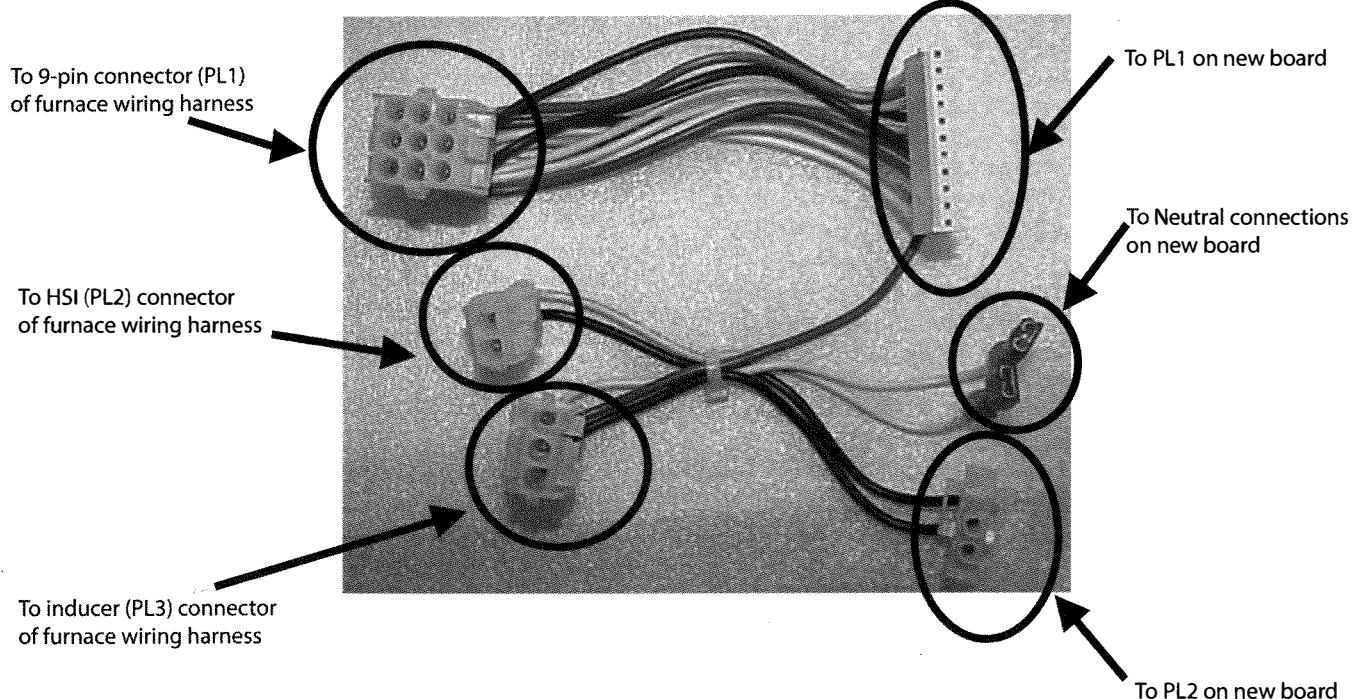

Fig. 3 - Wiring Harness Adapter
- Install furnace control board retaining screw(s). Install wiring harness adapter (part# 328151-701) to three connections of the existing furnace wiring harness. See Fig. 3.